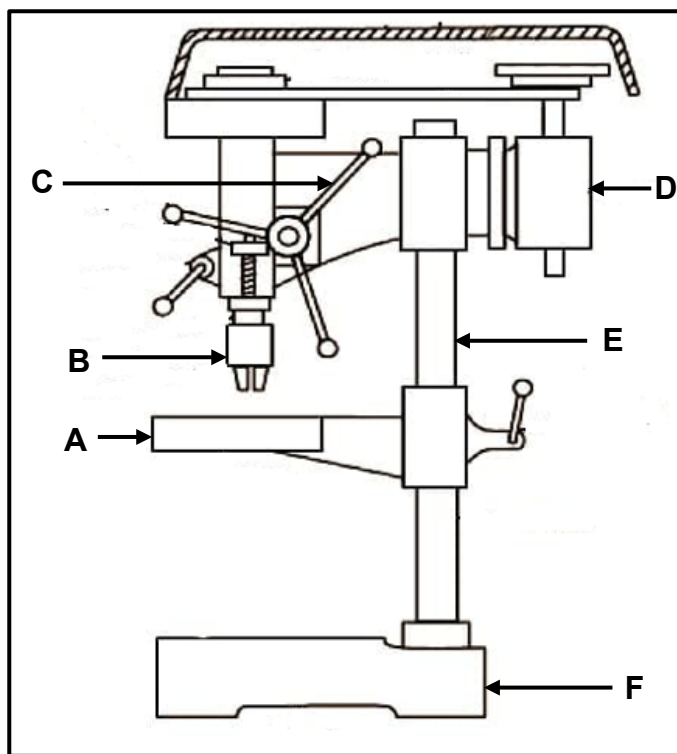

FIGURE 6.1
6.1 FIGURE 6.1 below shows a drill press. Label A–F.